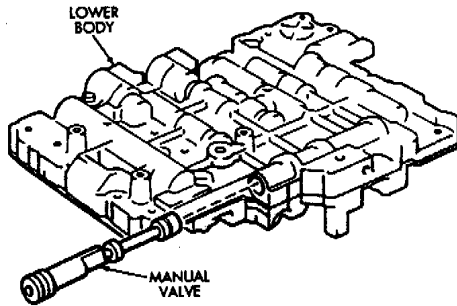

Fig. 4 Removing/Installing Manual Valve
- (2) Remove manual valve from lower body (Fig. 4).
- (3) Note or mark position of valve retainers and pressure reducing plug clip for assembly reference. Do not remove the retainers at this time.
- (4) Remove solenoid No. 1, 2 and 3. Discard solenoid O-rings.
- (5) Remove release control valve retainer with magnet and remove release control valve and plug (Fig. 4).